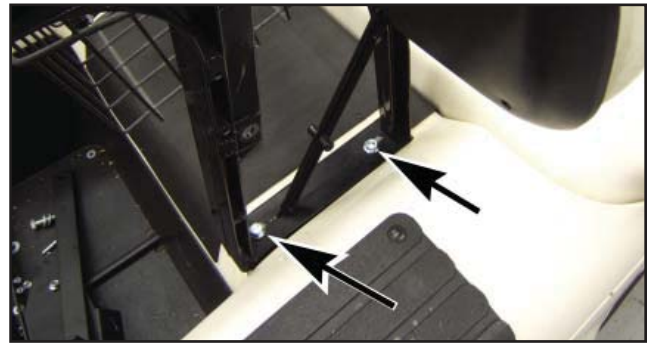

Fig. 1 - Remove Bag Rack/Seat Back Assembly
- 4) Remove the seat back/bag rack assembly from the chassis by removing the 4 bolts securing it (2 on each side). See Fig. 1.